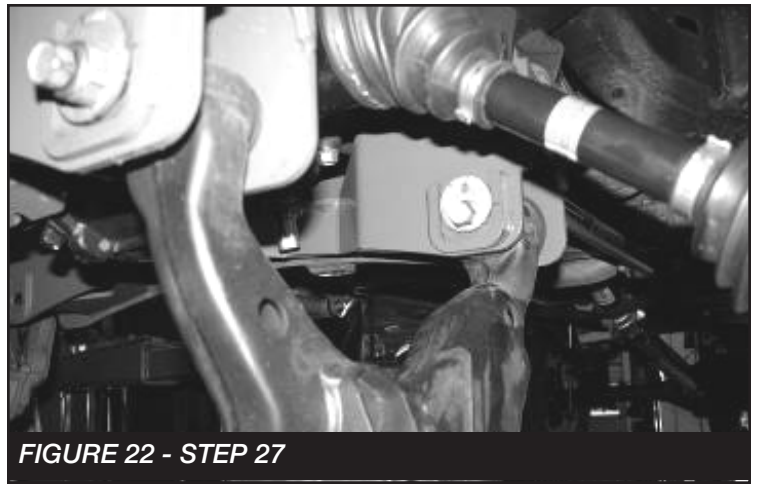

FIGURE 22 - STEP 27
27. Install the factory lower control arms, using stock alignment bolts and hardware, leave loose. **SEE FIGURE 22**